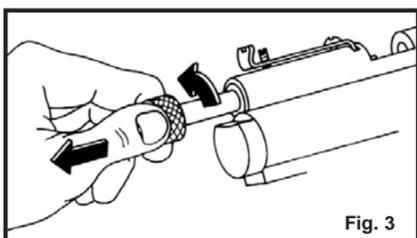

Fig. 3
- two clicks and the bolt stays rearward. (Fig 3)